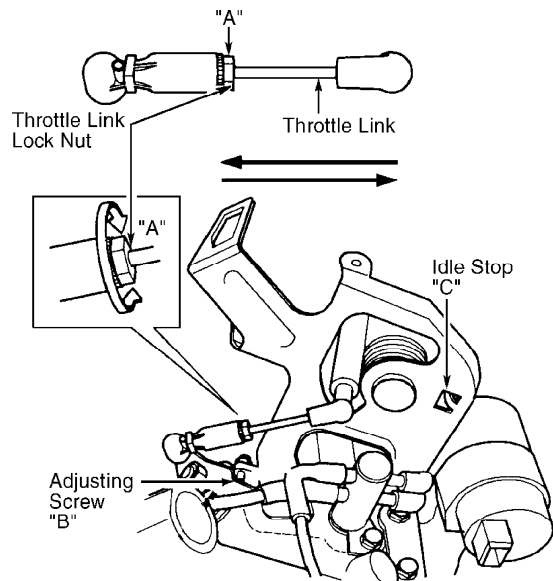

Fig. 5: Adjusting Throttle Link Rod (850 Turbo)
2) Attach link end with ball and lock nut to throttle spindle. Ensure throttle spindle is in contact with adjusting screw "B" and pulley is seated against idle stop "C". Tighten link lock nut "A". Rotate pulley to ensure link seats against adjusting screw "B" before pulley seats against idle stop "C". See Fig. 5.